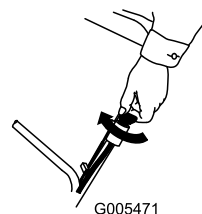
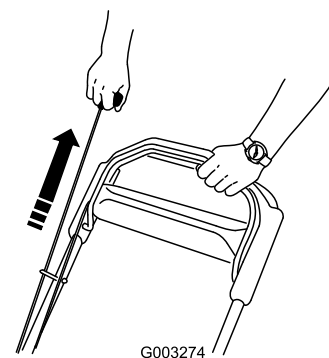

Figure 16
Figure 17
2. Turn the ignition key (model 20796 only) (Figure 16) or pull the recoil start handle (Figure 17).